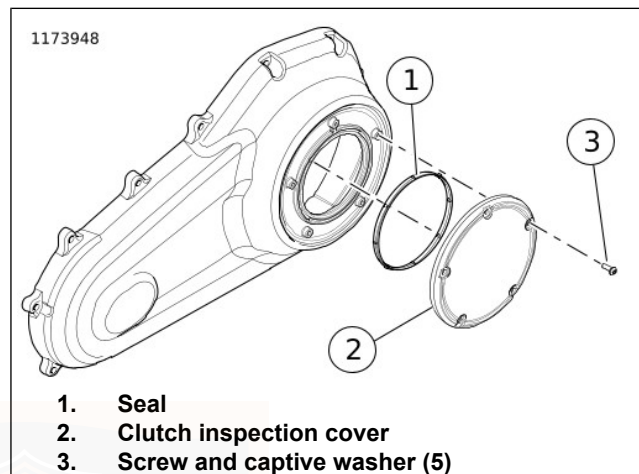
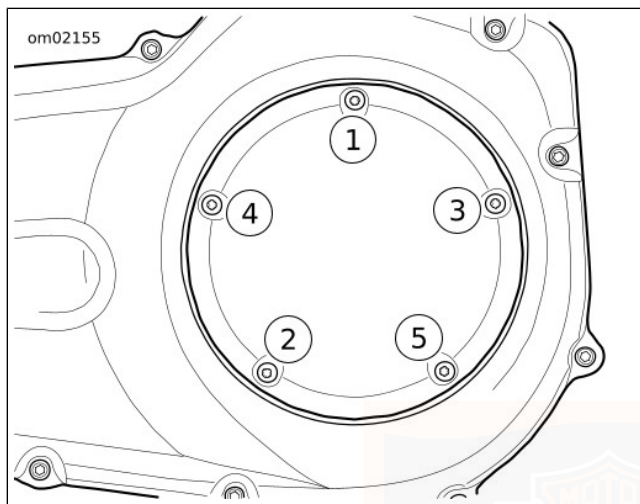

Figure 61. Clutch Cover (Typical)
Figure 62. Clutch Cover Tightening Sequence
6. See Figure 61. Remove screws (3) and clutch inspection cover (2).
7. Remove seal (1). Wipe oil from primary cover and groove in inspection cover.
- a. See Figure 61. Install **new** seal (1) in groove in cover.
- b. Secure clutch inspection cover with screws with captive washers (3).
- c. See Figure 62. Tighten in sequence shown.